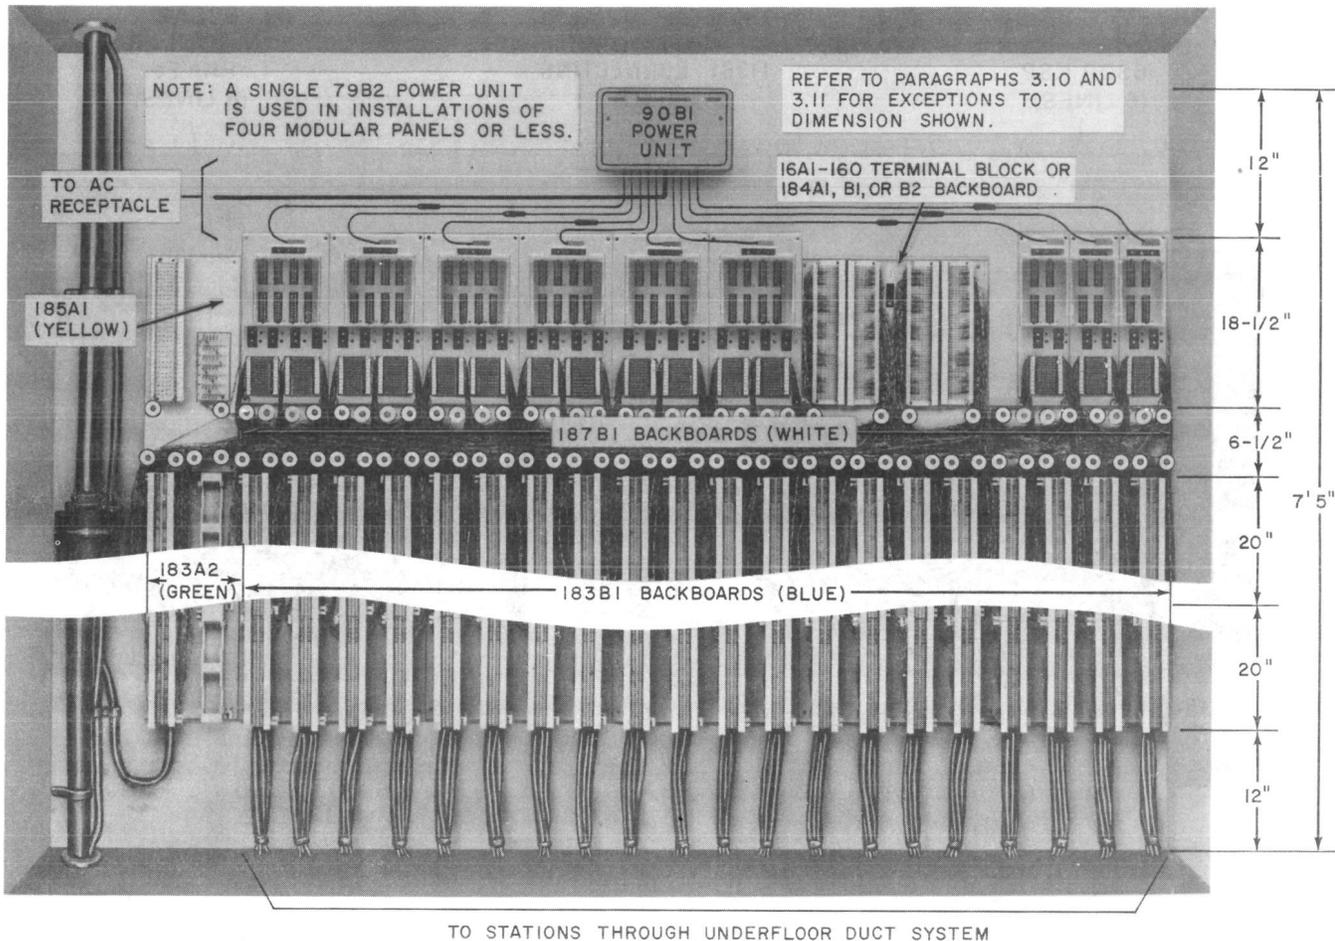

Fig. 8—Centralized Terminal Field, Typical Arrangement of Modular Apparatus
3.09 In Fig. 8, the 620A-type, 641A, and 642A panels are mixed in any order with 184-type backboards mounted in a single row directly above a WHITE and BLUE backboard field. No space between adjacent panels should be left unless stacking panels (see *Note*) or if covers and end panels are used (paragraph 3.10).
3.10 A recommended sequence for mounting modular panels, backboards, and power units is as follows (Fig. 8):
Note: The 16A1-160 terminal blocks or 184A1, B1 or B2 (RED) backboards may also be intermixed with modular panels as desired to provide station terminations in excess of the panel terminal capacity (Fig. 8 or 9). The 16A1-160 terminal block is the same height as the modular panels and half the width of a 620A-type panel. Two connecting blocks are provided which duplicate the designations and quadrants of a 620A-type panel. If required, the terminal blocks will accept 152A covers and 153A end caps.